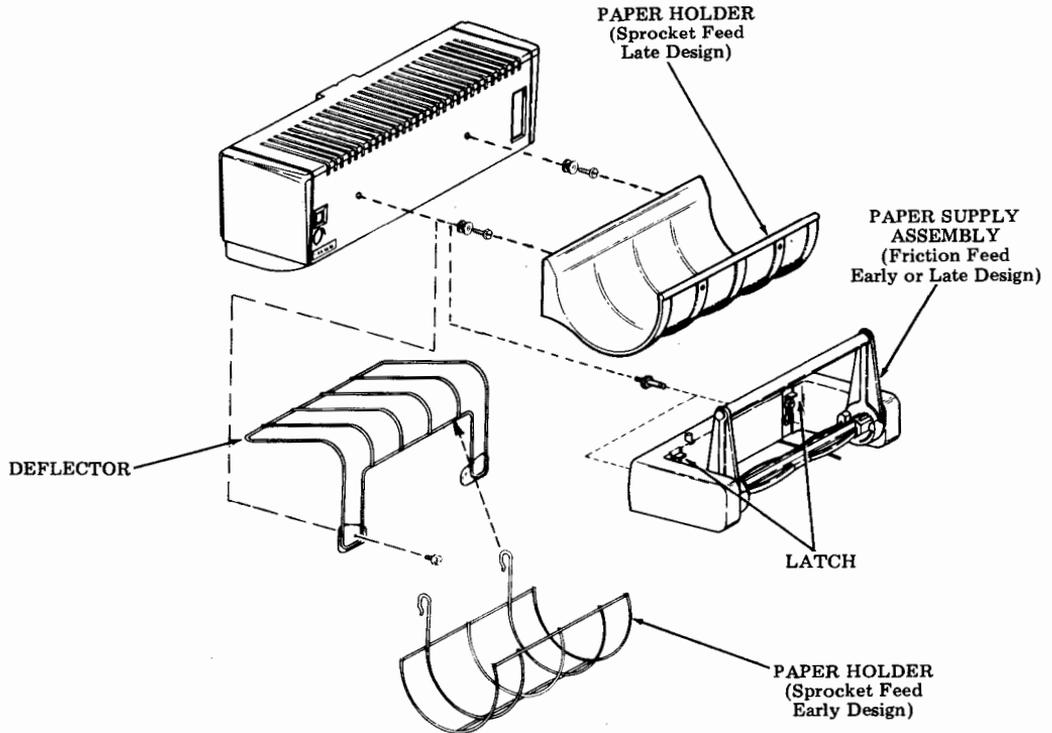

Fig. 6—Paper Holder and Paper Supply Assembly
| 13 | Transmit Current Loop | See Fig. 6 | Active - Not Wired in Recommended Cable |
| 14 | Transmit Current Loop | See Fig. 6 | Active - Not Wired in Recommended Cable |
| † 15 | Receive Current Loop | See Fig. 6 | Active |
| 16 | Receive Current Loop | See Fig. 6 | Active - Not Wired in Recommended Cable |
5.16 Attach the paper holder to the deflector if present, otherwise attach it to the bustle cover by sliding down over the bushings as shown in Fig. 6.